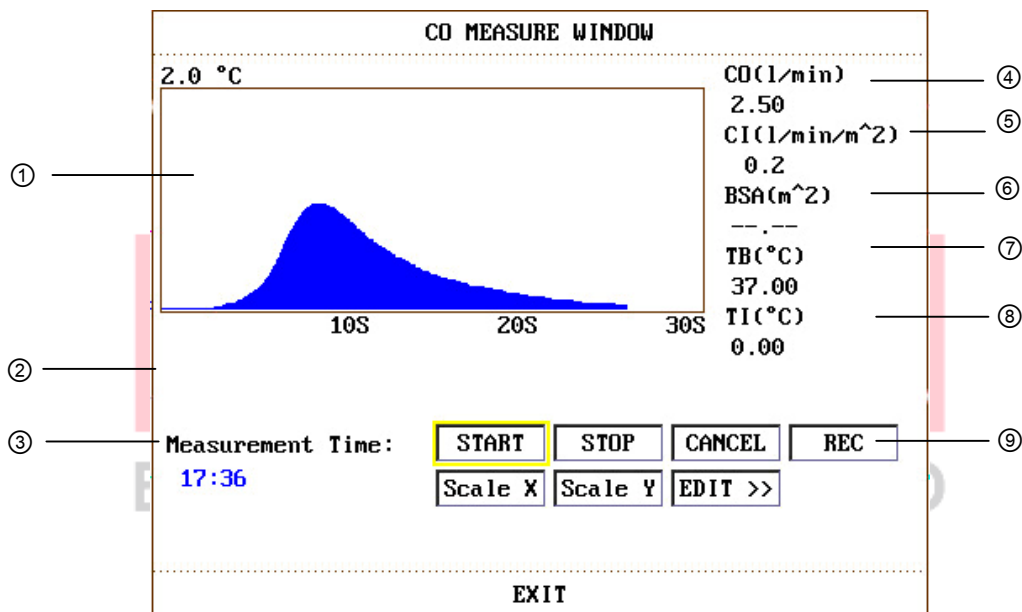

Figure 18-2 CO MEASURE WINDOW
Measurement should be taken when the message “**Ready for new measurement**” appears on the screen (② in the Figure 18-2). Press the **START** button, and then start injection. The thermodilution curve, current blood temperature and the injectate temperature are displayed during the measurement. Curve drawing will stop automatically when the measurement completes, and the the CO and CI (④ and ⑤ in Figure 18-2) will be calculated and displayed on the screen. The monitor will also display the CO in the Parameter Area, as well as the remaining time to the next measurement (② in the Figure 18-2).
To ensure the accuracy of the measurement, it is suggested that a reasonable interval should take place between two consecutive measurements. The length of the interval can be set in the **CO SETUP** menu (Time unit: second). The interval time counter (② in the Figure 18-2) is displayed on the screen. The next measurement can not be performed until the time reduces to zero and a prompt message “Ready for new measurement” appears.